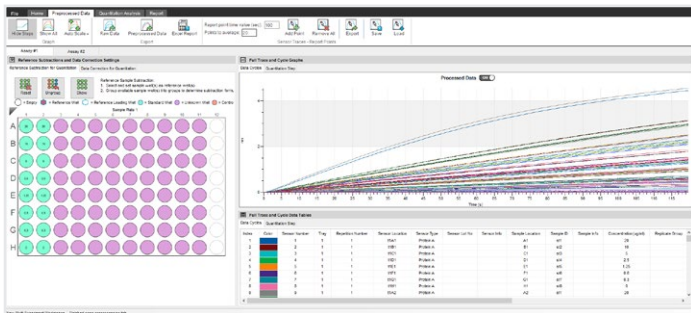
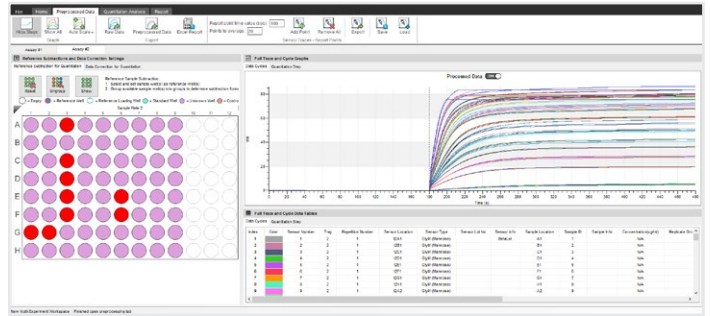

Figure 24: Viewing Assay No. 1 ProA Titer sensor Data in “Preprocessed Data” window.
Figure 25: Viewing Assay No. 2 GlyM sensor Data in “Preprocessed Data” window
3. Click on the Preprocessed Data tab to view the data. Select Assay No. 1 to view Titer data (Figure 24) or Assay No. 2 to view Mannose data (Figure 25).